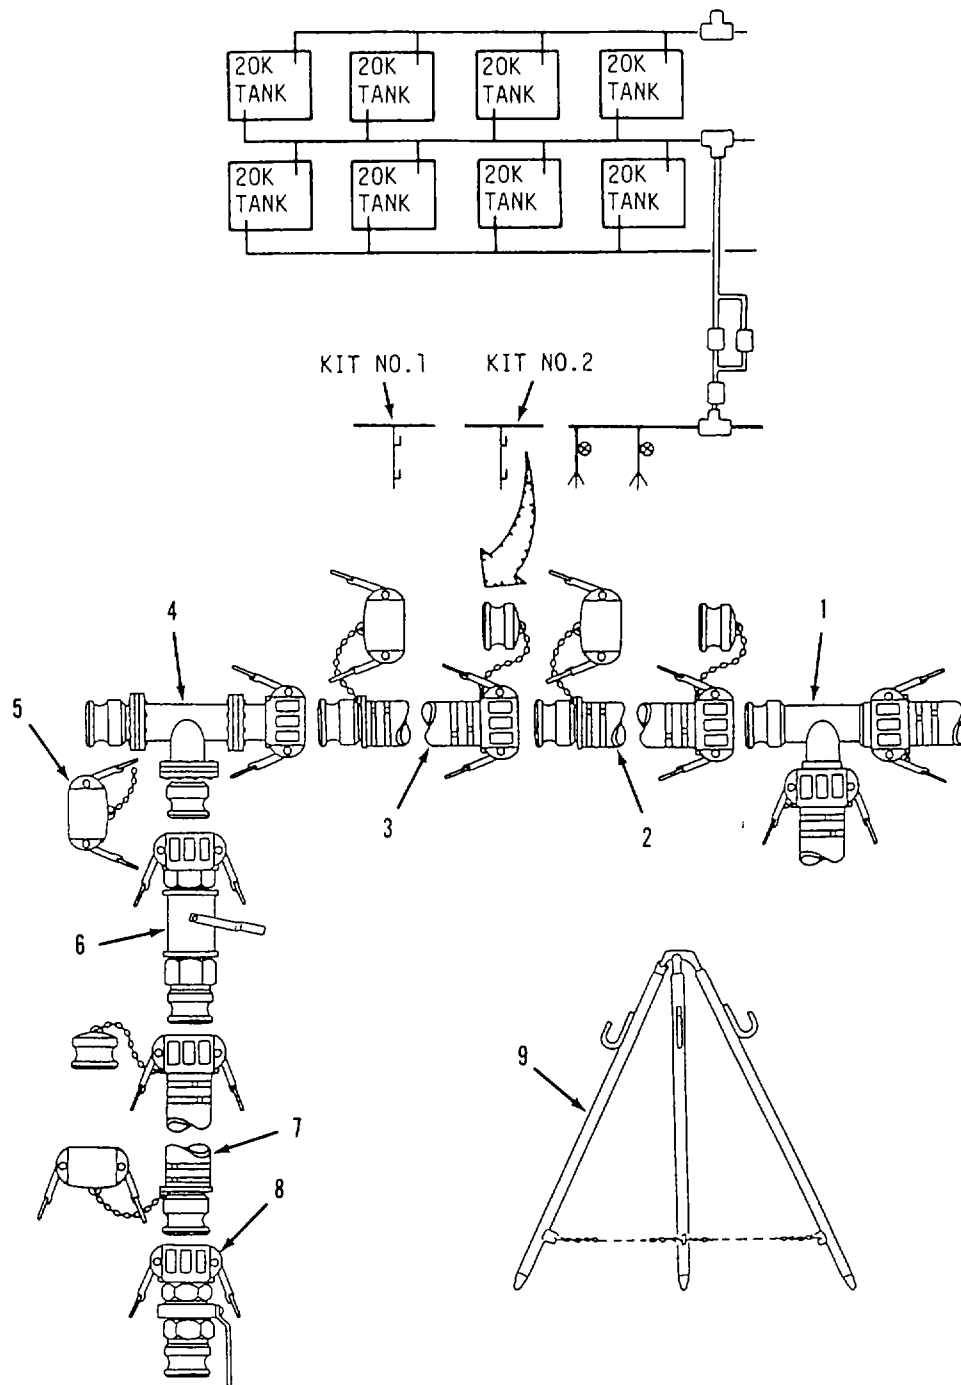

Figure 2-23. 4-Inch Hose Connection Kit Assembly
- p. Assemble 4-Inch Hose Connection Kits. Refer to figure 2-23.